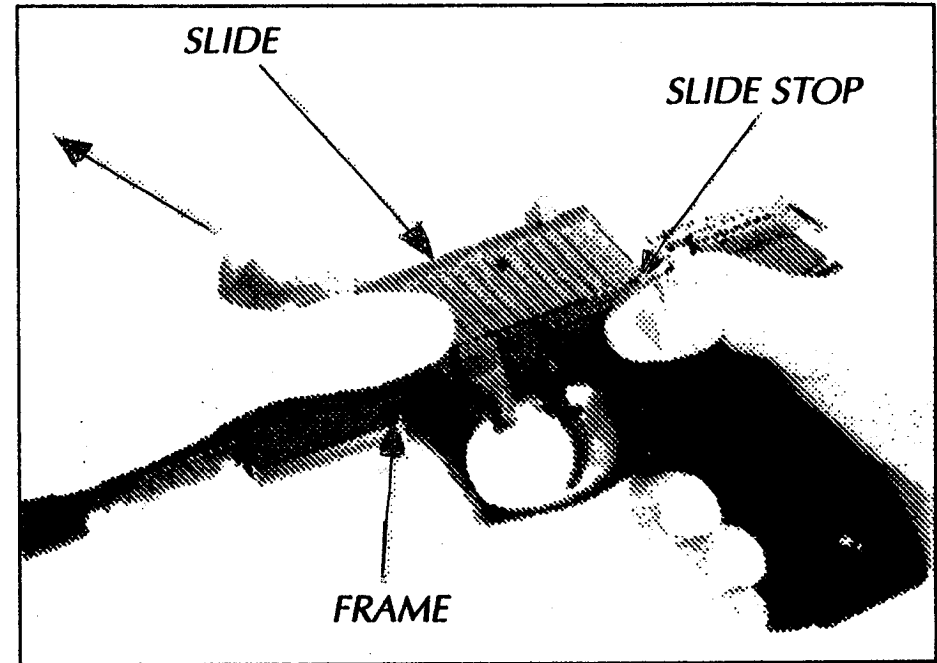

Fig. 13 SEPARATING SLIDE FROM THE FRAME
5. To separate slide, barrel and recoil spring from the frame depress the slide stop with the thumb of the hand holding the grip, holding the barrel link swivelled with the thumb of the other hand (Fig.13). Hold the slide and the parts in it and move them forward to separate from the frame.